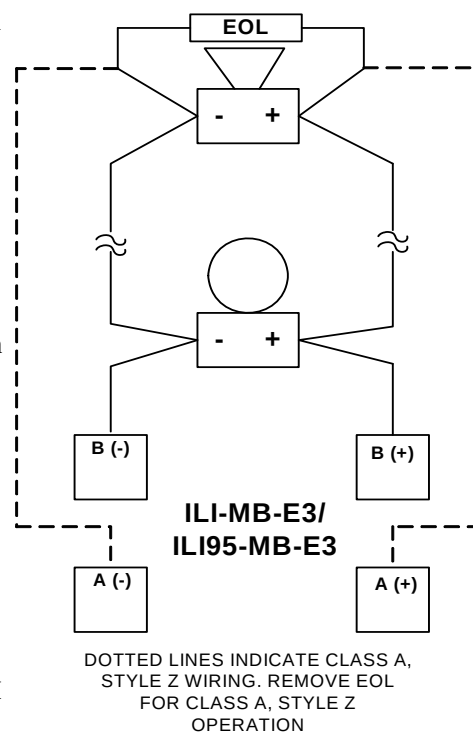

Figure 3.1.4.1 Notification Appliance Circuits
The ILI-MB-E3 or ILI95-MB-E3 provides two (2), 24 VDC Class A, Style Z or Class B, Style Y notification appliance circuits. See Figure 3.1.4.1 for wiring information. See the *Compatibility Addendum*, P/N: 9000-0427, for a list of approved compatible devices.